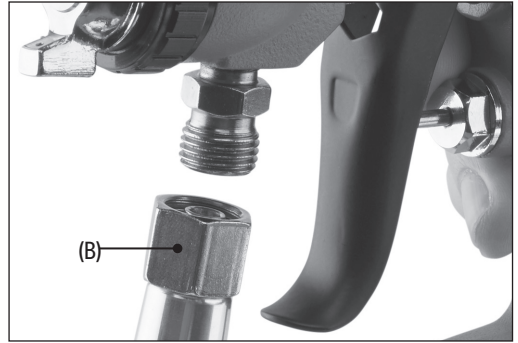

Fig. 6
1. Attach the paint cup (B) to the threaded socket beneath the spray gun nozzle (Fig. 6).